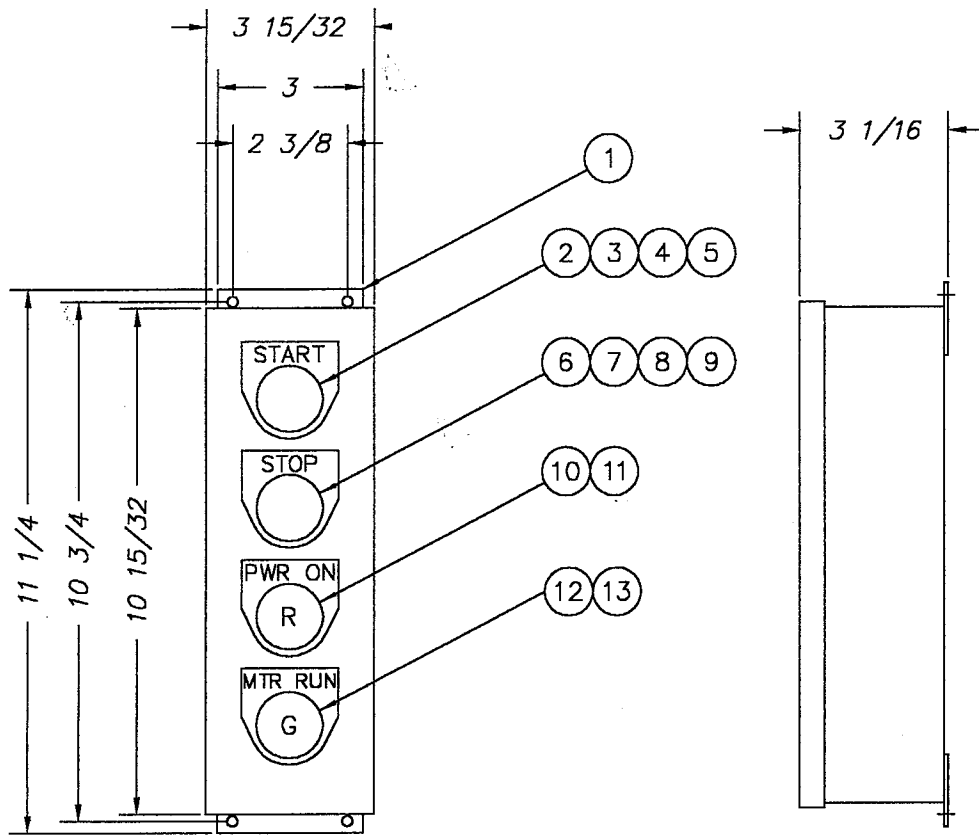

FIGURE 7-4
7.8 START/STOP PUSHBUTTON STATION (Refer to Figure 7-4)